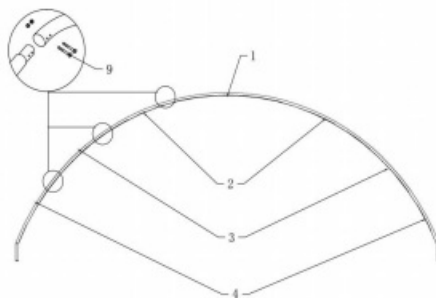

Figure 3
1. Follow Figure 3 to assemble the front door arch frame using specified parts and bolts.
1. Figure 3 shows the first group of front door arch frame, one piece of Rooftop tube(No. 1), two pieces of